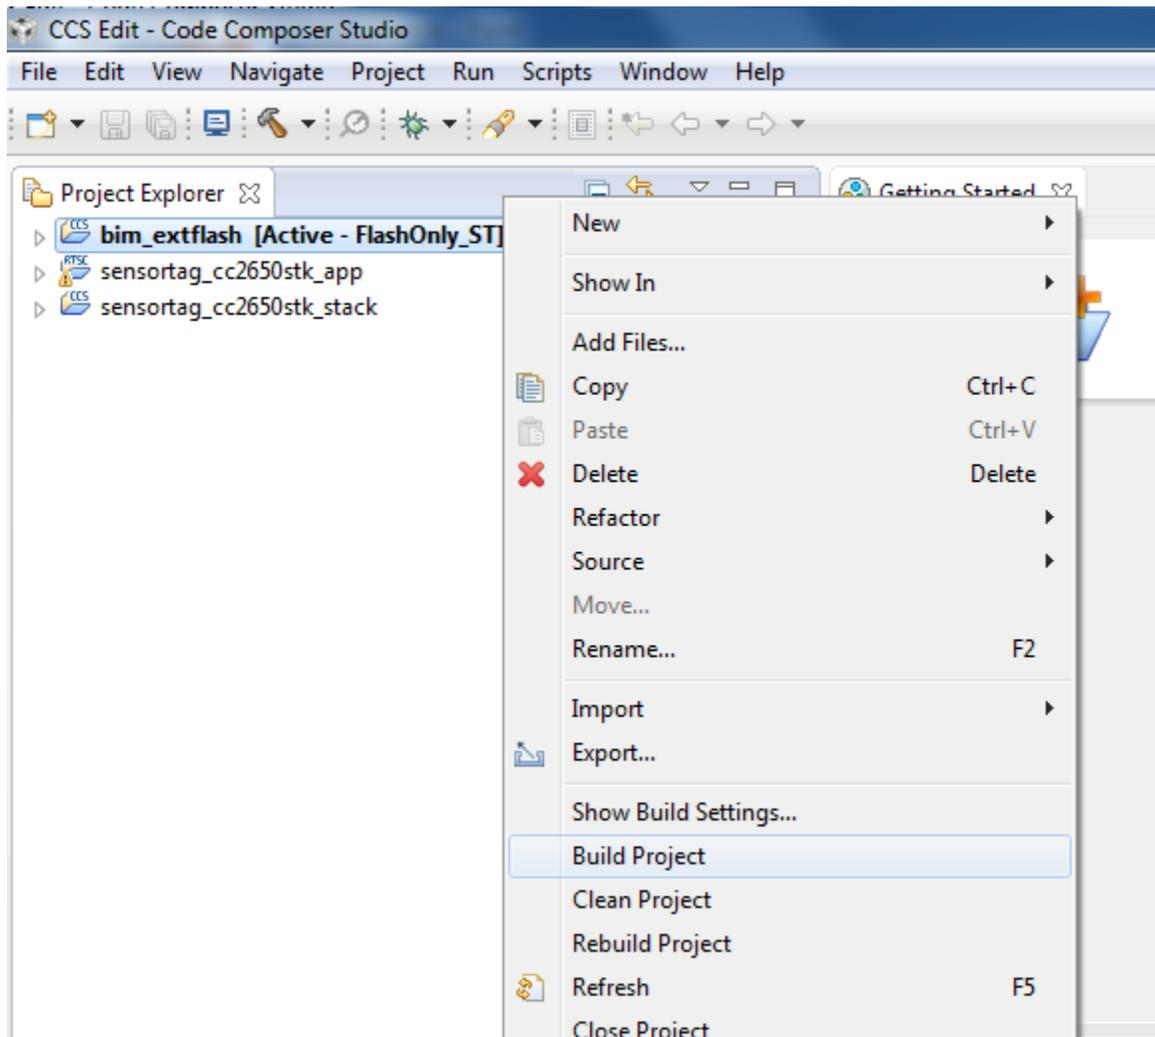

Figure 33, Right Click - Build Project.
- a. Right Click the bim_extflash project in the Project Explorer (Figure 33).